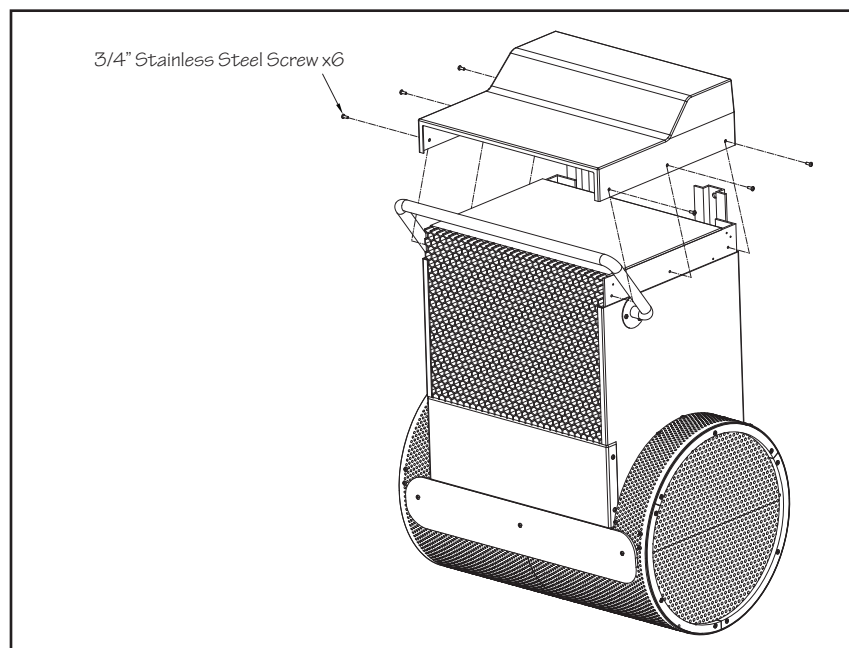

Fig. 6.12
- 6.14 Once the Fastlane is installed in the pool, place the housing lid onto the housing and use the provided screws to attach. There will be three screws per side, for a total of six (Fig 6.12).
- 9.6 Place the Fastlane lid onto the top of the Fastlane and use the six 3/4" stainless steel screws that were provided (3 on each side) (See Fig 6.12).